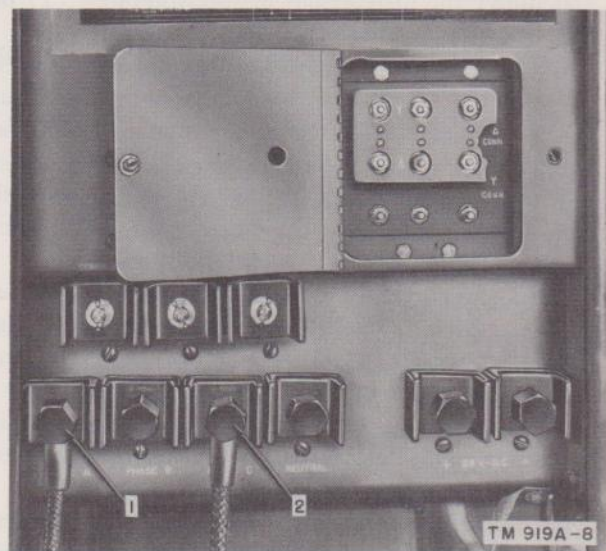
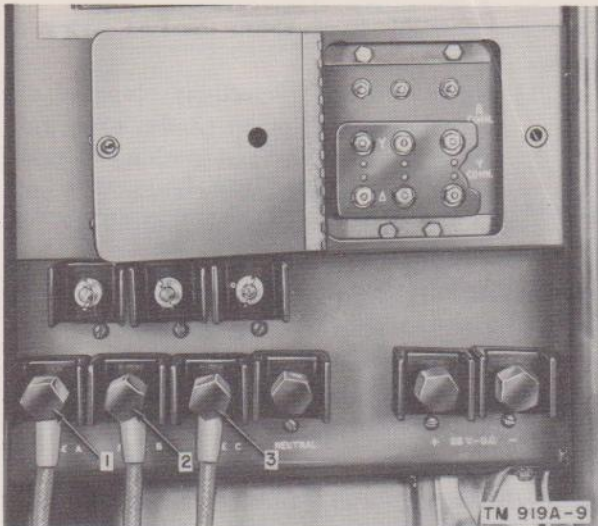

Figure 8. Single phase, 120 volt connections (Delta).
Figure 9. Three-phase, 120/208-volt connections (Wye).
*a. Ac Output Connections.* The wye-delta change board and the output terminals are located on the right side of the unit. Open the change board door to check the ac output rating in which the generator set is connected. The symbol of the rated load will be either Y (wye) or  $\Delta$  (delta). To change the voltage connections, remove the six nuts and washers that secure the jumper board to the terminal board. For 120-volt, single-phase, 10-kw operation, connect the jumper board in the delta position (fig. 8). Connect cables from the load to output terminals marked PHASE A (1, fig. 8) and PHASE C (2). Use #0 AWG (American Wire Gauge) cable. For 120/208-volt, three-phase, 12.5-kw operation, connect the jumper board in the wye position (fig. 9). Connect cables from the load to output terminals marked PHASE A (1, fig. 9), PHASE B (2), PHASE C (3), and NEUTRAL (if required). Use #4 AWG cable. Figures 8 and 9 show the proper delta and wye connections.